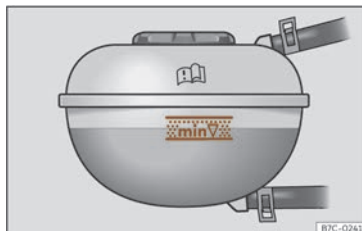

Fig. 209 In the front compartment: marking on coolant expansion tank.
- When the engine is cold, check the coolant level using the side marking on the expansion tank >>> **Fig. 209**. The coolant level should be between the marks.
- The coolant level must be between the marks on the expansion tank >>> **Fig. 209**. **Never exceed the top edge of the marked area** >>> .
- **When topping up the, do not fill over the upper edge of the marked area >>> Fig. 209.** Otherwise, when the temperature rises the excess fluid will be expelled from the motor cooling system and could cause damage.